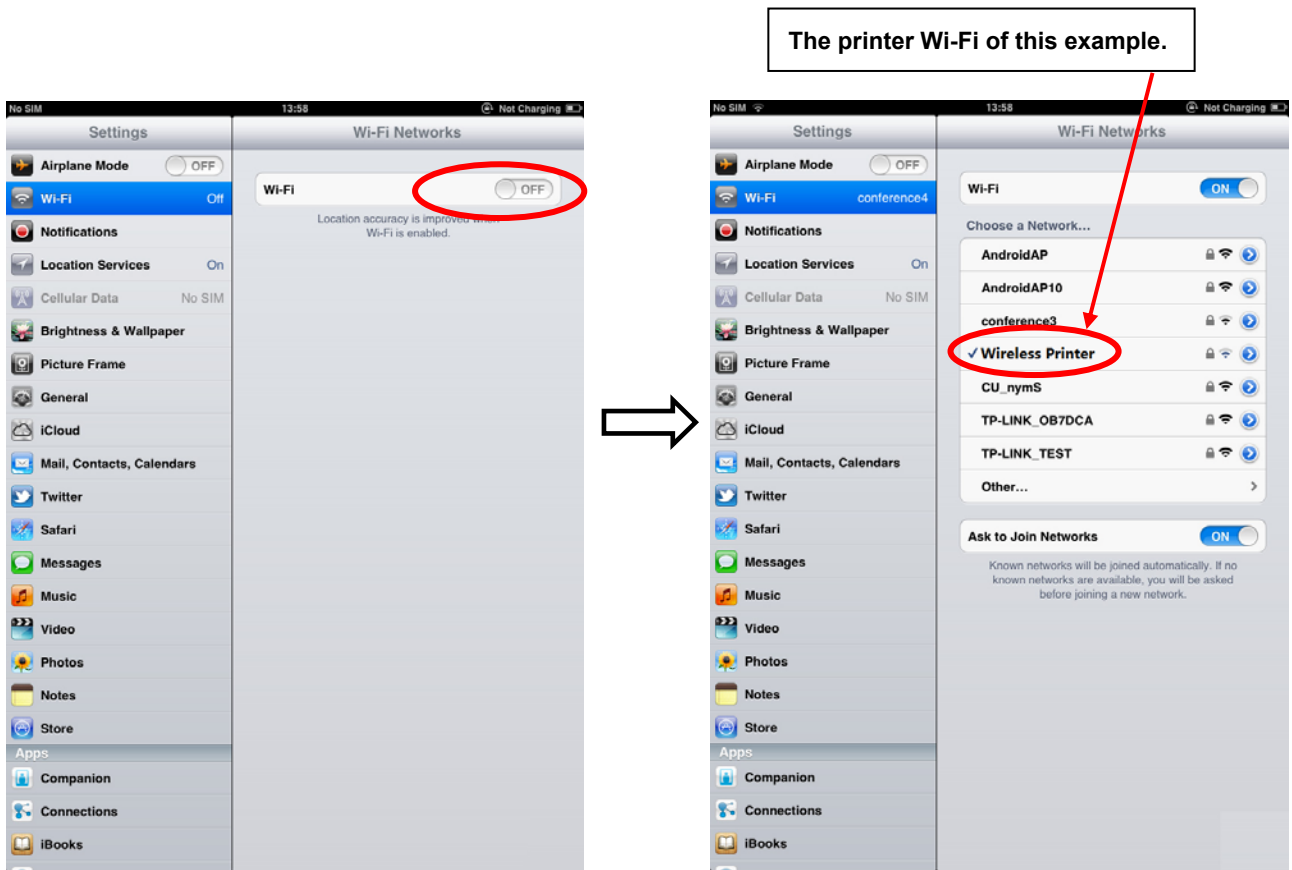

Figure 3
2. Click “Settings” and the interface pops up. Select the “WLAN” function to “ON”, then click the printer Wi-Fi searched by the mobile phone to connect. The printer Wi-Fi default name is composed of “the printer model+6 numbers and letters” (as shown in Figure 3).